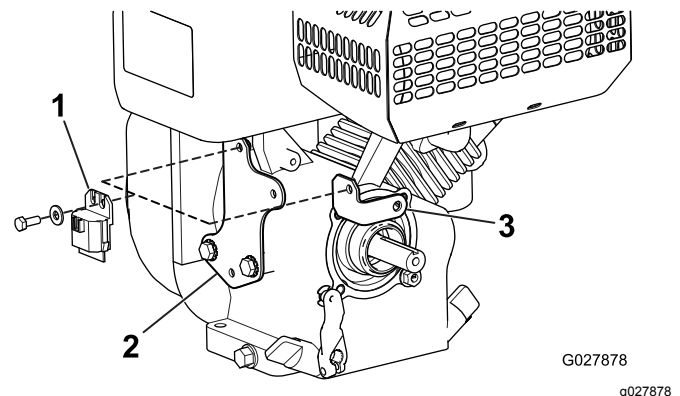

Figure 2
5. Remove and retain the wire harness bracket, the interlock module, and fasteners (Figure 2).